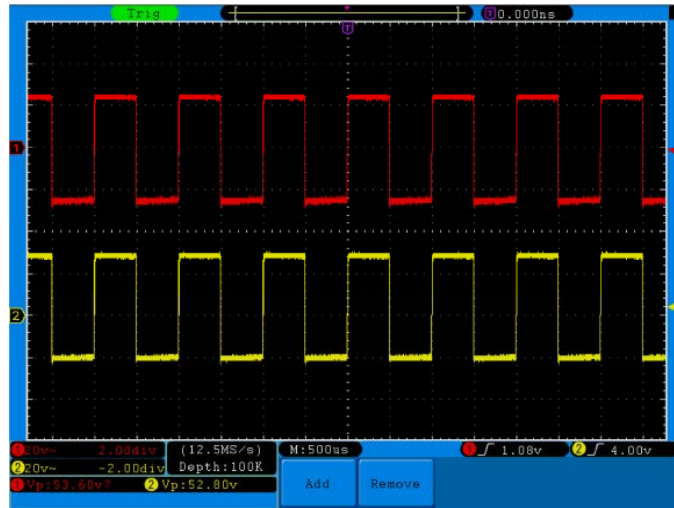

Fig. 79 Waveform of Gain Measurement
8. Read the peak-to-peak voltages of Channel 1 and Channel 2 from the bottom left of the screen (See Fig. 79).